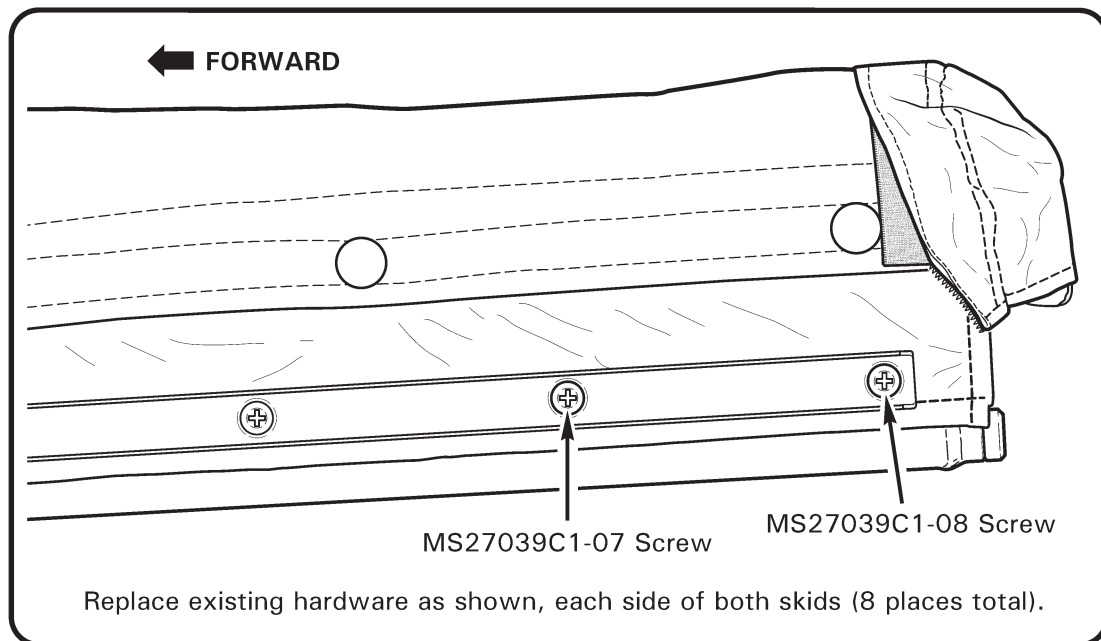

FIGURE 1
7. Position skid shoe and loosely install (4) A142-1 screws (provided). Install strut attachment hardware. Standard torque bolts per R66 MM § 20-32. Secure A142-1 skid shoe screws.
11. Refer to MM Figure 32-7. Align holes in C944 retainer strips, float covers, float girts, and skid extension, installing hardware as required to achieve 1-4 threads exposed beyond nut; replace two aft-most installation hardware with (2) MS27039C1-08 screws and (2) MS27039C1-07 screws per Figure 1. Special torque hardware to 25 in.-lb wet with A257-9 anti-seize (threads only).